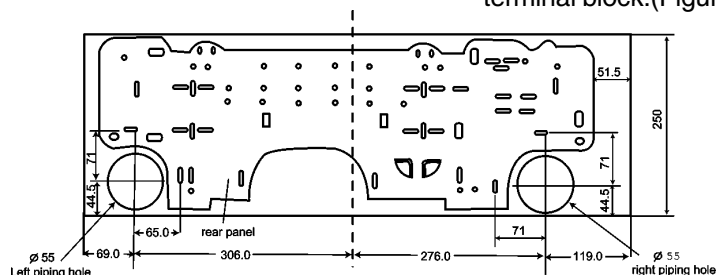

Figure 1
1. Make the piping hole ($\phi 55$) in the wall at a slight downward slant to the outdoor side. The center of the hole should be determined refer to Figure 1.